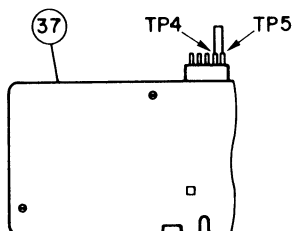

Figure 24
2. Insert the test connector to the 5-pin plug (CN4) of the Control P. C. Board and short-circuit TP4 and TP5 of the test connector as shown in Figure 24.